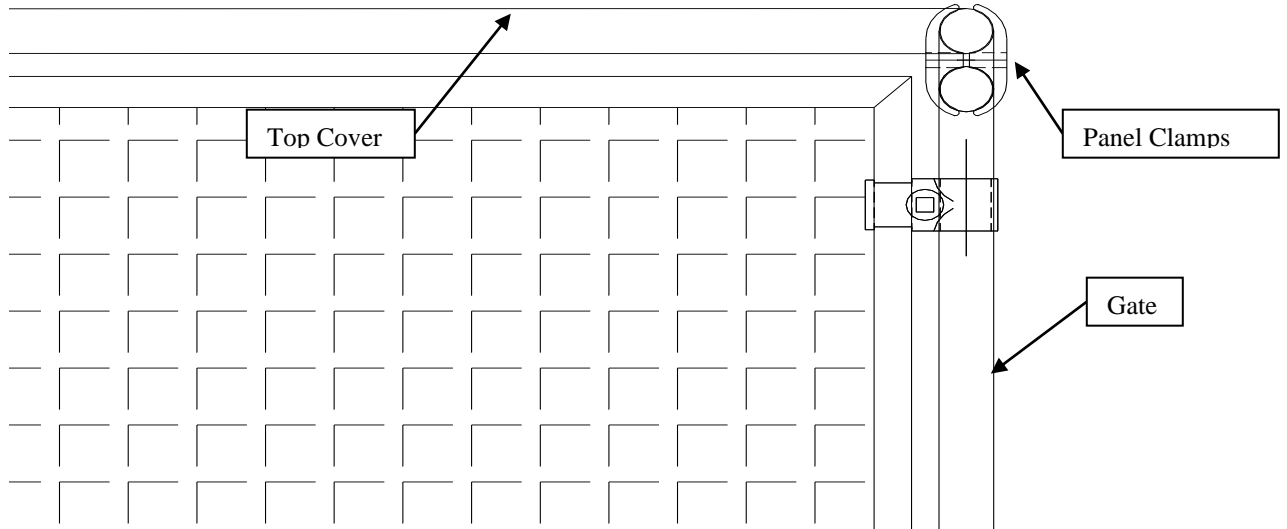

Figure 24.
3. Using panel clamps, 5/16"-18 x 1-3/4" galv. carriage bolts, and 5/16"-18 nuts, connect the front tube of the top covers to the top of the gate frames. See Figure 24.